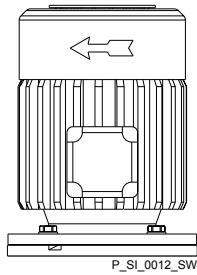

Fig. 19: Direction of rotation of motor
- When connecting the motor, pay attention to the correct direction of rotation indicated by the arrow on the fan cover, as shown in Fig. 19.